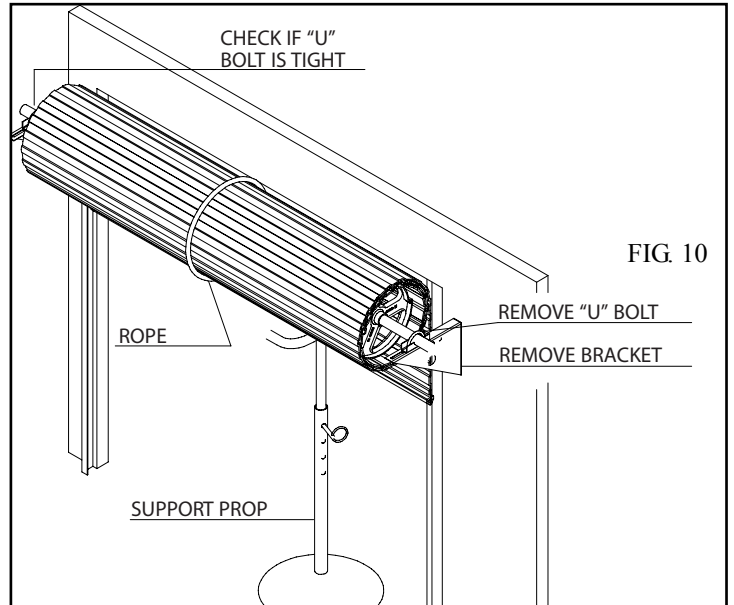
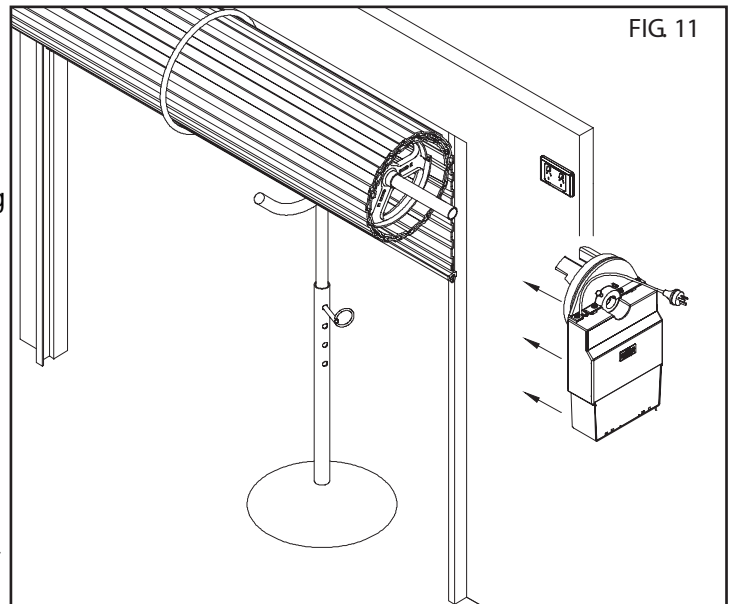
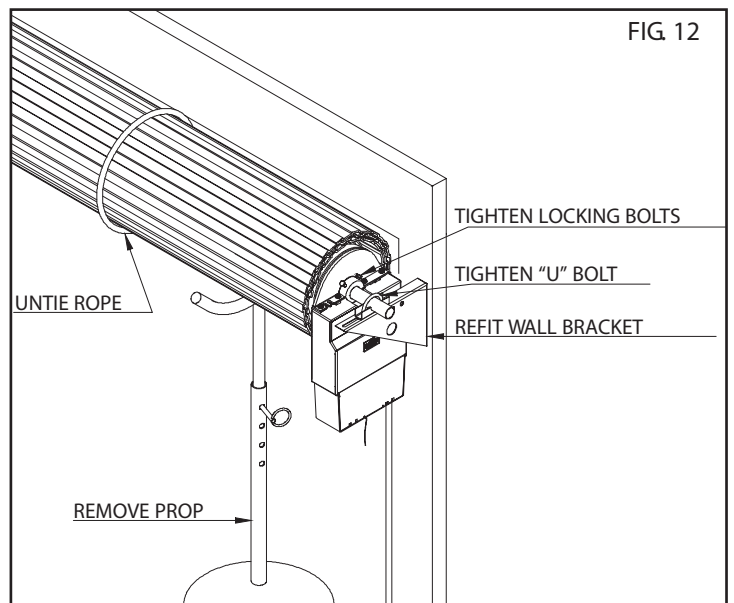

FIG. 10
FIG 11
FIG 12
FITTING DRIVE UNIT TO DOOR (Fig. 10, Fig. 11 and Fig. 12).
9. Straighten the drive unit and position as per Fig. 12. Tighten the two locking bolts firmly to secure the drive unit.